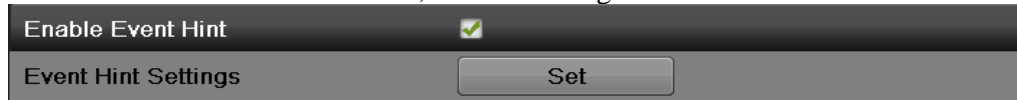

Figure 43 Event Hint Setting Menu
2. Check the checkbox to enable event hint, as shown in figure 43.